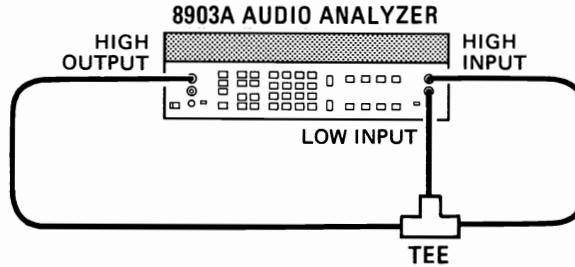

Figure 4-4. Common-Mode Rejection Ratio Test Setup
2. Connect the Audio Analyzer as shown in Figure 4-4.